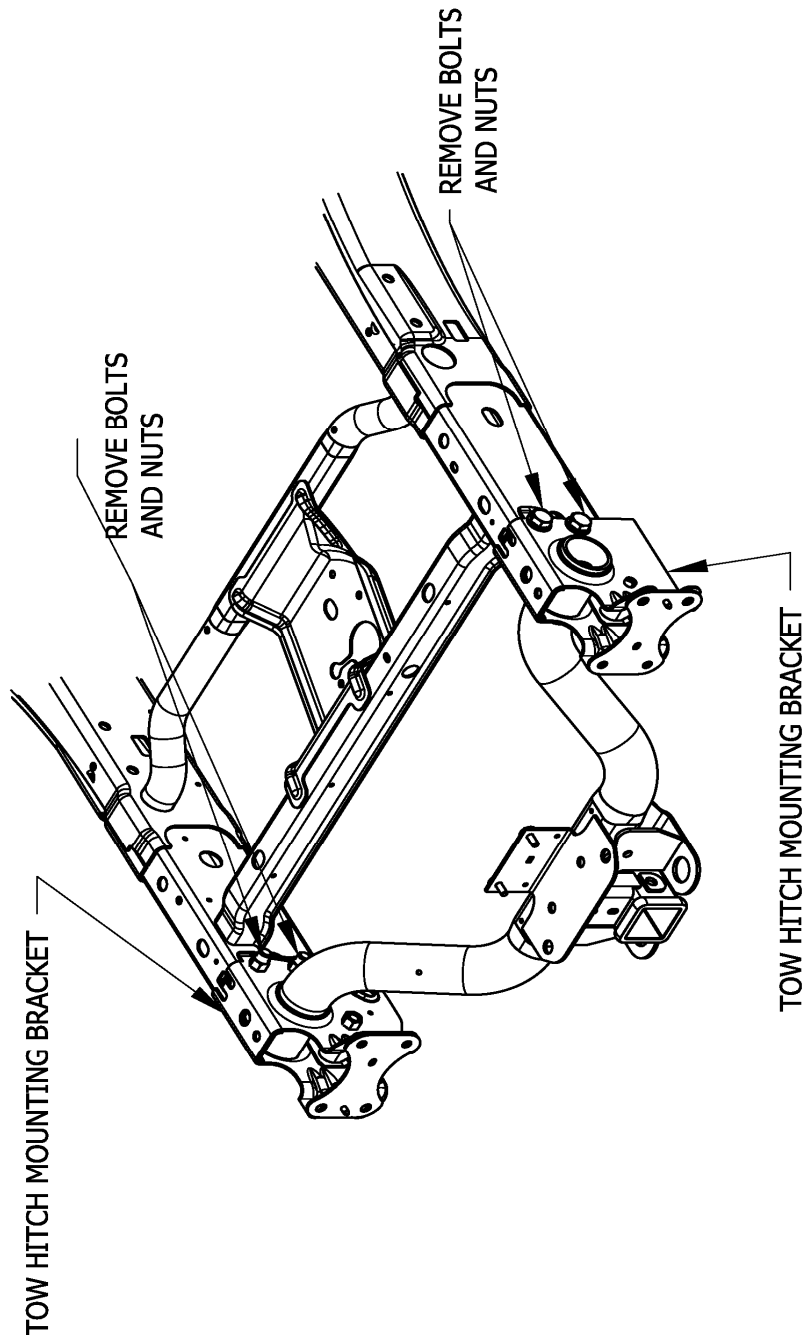

Figure 1 (2500/3500)
3. Remove the four bolts securing the tow hitch to the vehicle frame (2 per side). These bolts will not be reused. (figure 1)
4. Remove the two nuts from the inside of each tow hitch mounting bracket (2 per bracket). These nuts will not be reused. (figure 1)